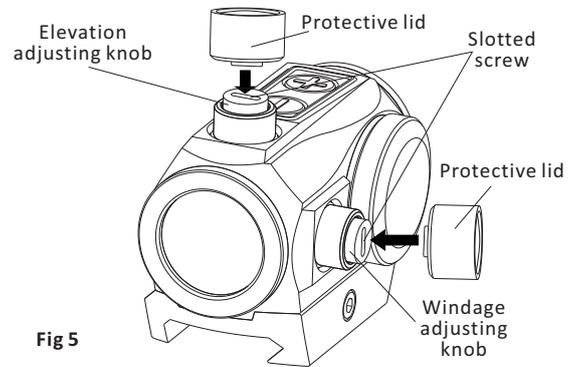

Fig 5
1. On top of sight is the elevation adjusting knob , the windage adjusting knob is on the right side (see Fig5). The sight has been factory adjusted for approximate zero.